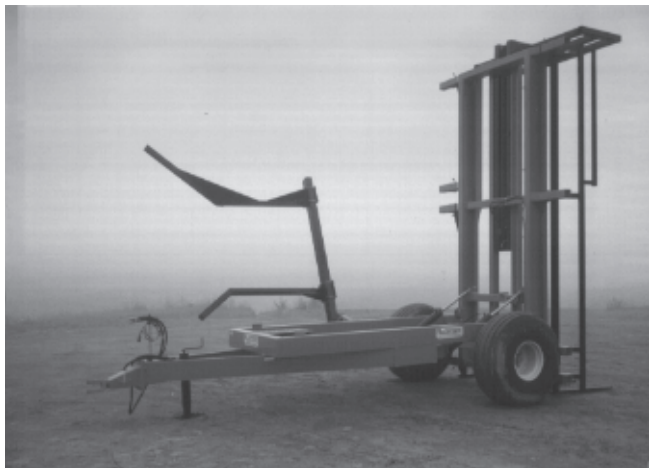

Figure 20
9) The P-6808 and P-6808M models permits to unload 2 stacks of 3 bales high vertically (Fig. 20), by using the vertical forks at rear (Fig. 21) included with the machine. Therefore, the loading capacity is limited to 6 bales (4' long bales).